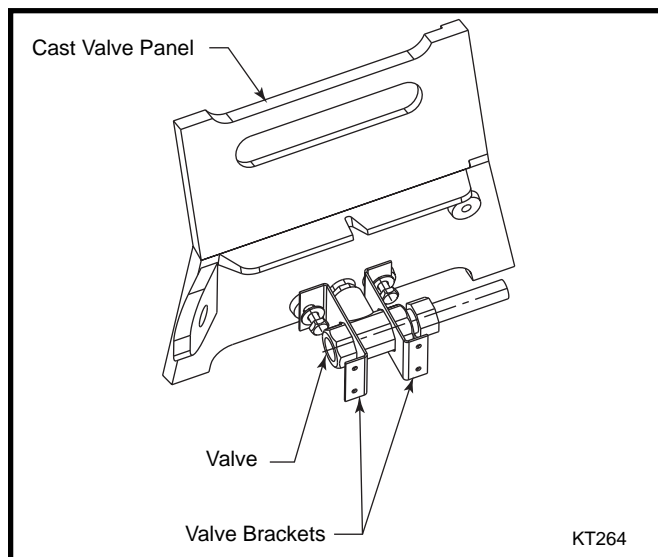
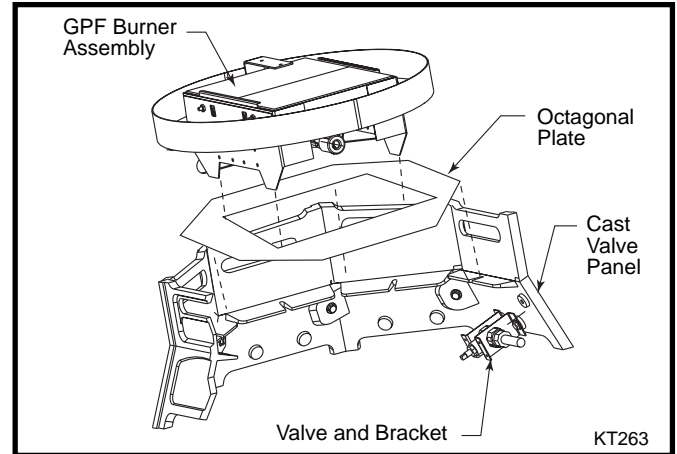

Fig. 7 Attach valve and brackets to cast valve brackets.
Fig. 8 Cutaway section of Chalet Base.
6. Seat the GPF burner assembly on the Villa. Pass the burner legs through the rectangular opening in the plate. (Fig. 7)
1. Remove Chalet Base assembly from shipping carton. Remove two (2) 1/4-20 fasteners and two (2) washers from the cast valve panel, set aside.
2. Remove the four (4) sheet metal screws that hold the valve brackets to the burner on the GPF and discard.
3. Disconnect the fuel supply line from the valve using a 3/4" wrench. (Fig. 7) Using both the 3/4" and 11/16" wrenches, remove the fuel supply line from the venturi (tube secured to the bottom of the burner). Assemble the valve and bracket assembly to the Chalet using the 1/4-20 x 1/2" fasteners and washers removed in Step 2. Reconnect the fuel supply line to the valve and tighten. Feed the fuel line from the gas supply through the fuel line opening in the base. Place the octagonal mounting plate on the Chalet. (Fig. 8) Orient the plate with the long side of the rectangular opening parallel to the valve panel. Pass the fuel line through the rectangular opening and reconnect the fuel supply line to the venturi on the GPF and tighten using the 3/4" and 11/16" wrenches.
4. Seat the GPF burner assembly on the Chalet. Pass the burner legs through the rectangular opening in the plate. (Fig. 8)